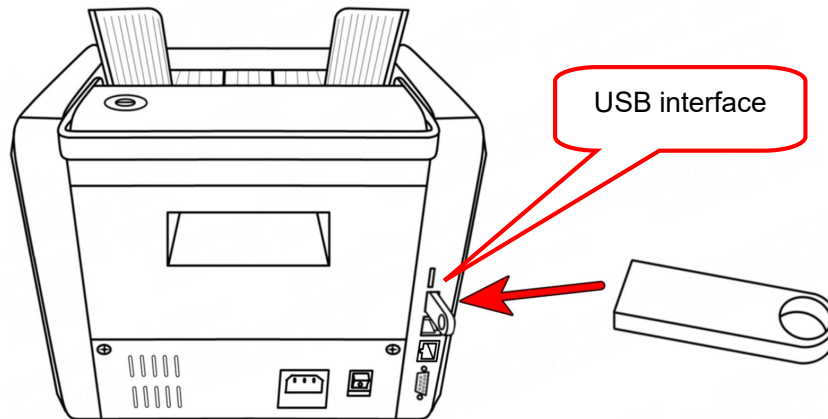

Figure 90
1) In the shutdown state, insert the USB disk into the USB interface of the machine, as shown in Figure 90 below: